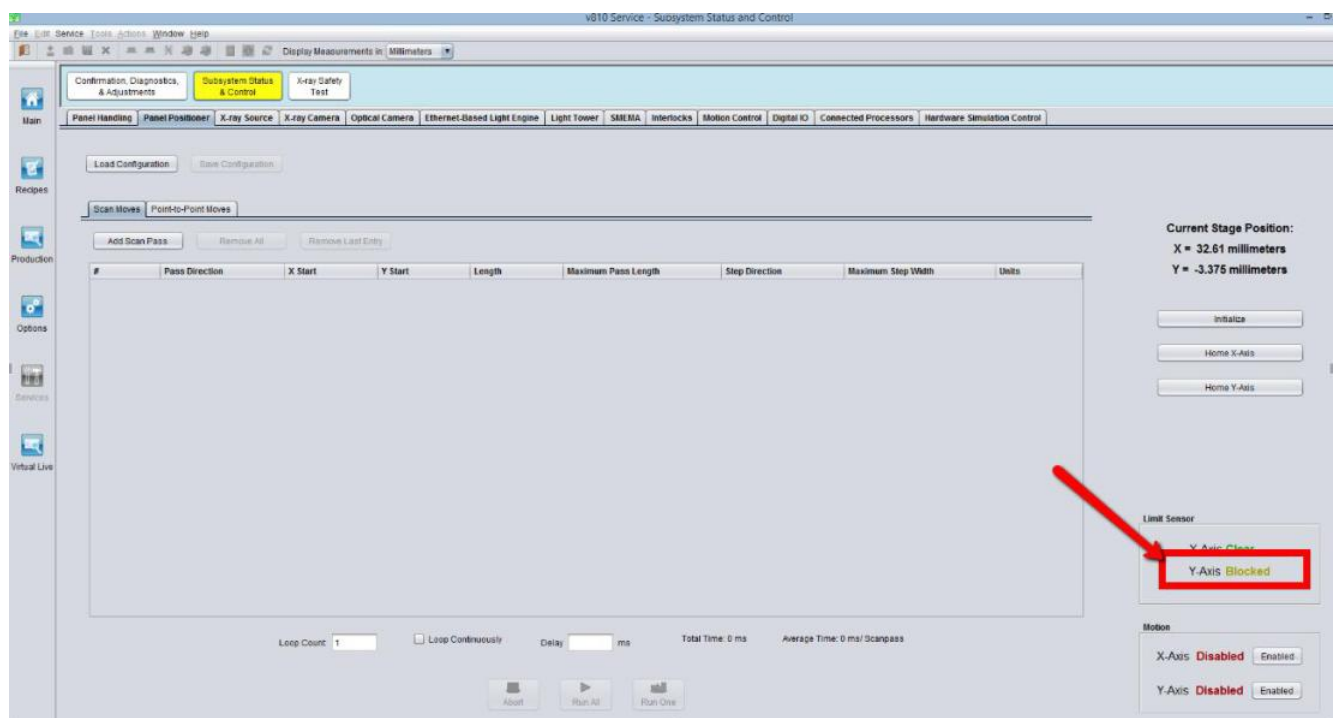

Figure 14 Y axis Limit Sensor in “Blocked” state
- b) Move Y axis stage towards minimum hard stop (Front side) & check Limit sensor where must stated as “Blocked” as shown in Figure 14.